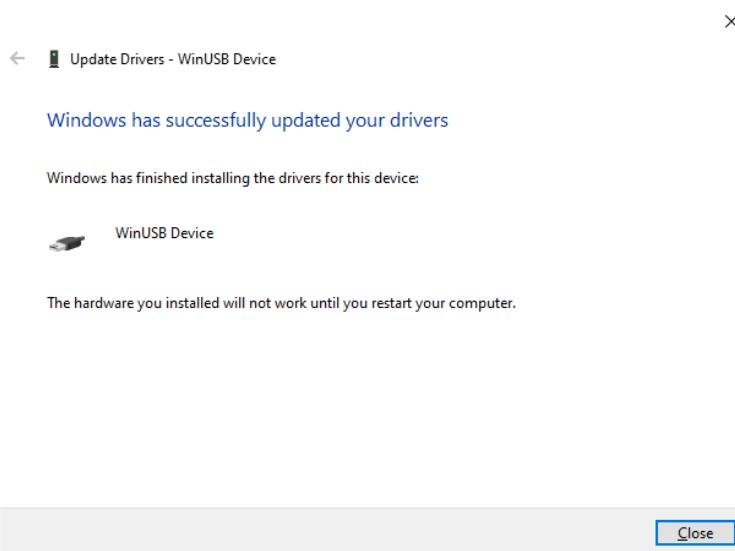

Fig. 11.12: USB driver installation completed.
6. Windows informs the driver software is successfully installed (see **Fig. 11.12**).